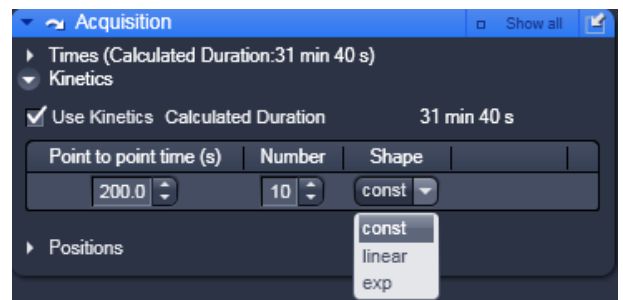

Fig. 9-38 Use Kinetics panel
- Check the **Use Kinetics** box (Fig. 9-38) to obtain the **Use Kinetics** panel